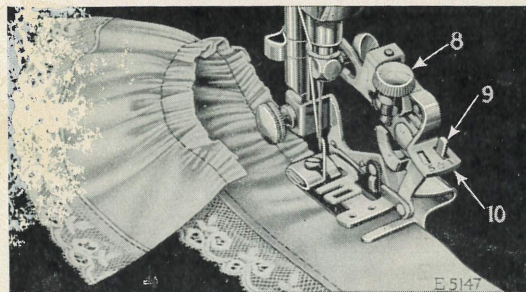

FIG. 36
Raise the needle bar to its highest point and remove the presser foot. Attach the ruffler foot to the presser bar by means of the thumb screw, at the same time placing the fork-arm astride the needle clamp as shown in Fig. 36.
Raise the adjusting lever (10, Fig. 36) and move it to the left so that the projection (9, Fig. 36) will
To make a finer gather, shorten the stroke of the ruffling blade by turning the adjusting screw (8, Fig. 36) up, also shorten the stitch. To make a fuller gather, lengthen the stroke of the ruffling blade by turning the adjusting screw (8) down, also lengthen the stitch. By varying these adjustments many pleasing varieties of work can be accomplished.